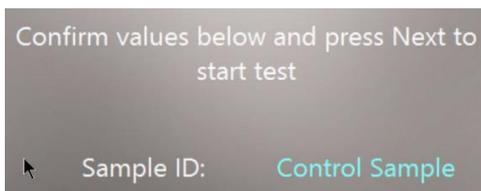

Figure 40: Control Sample confirmation message
**Note:** If the selected assay has been set in the Sample ID screen to be run as a control sample, then text will appear on the Confirmation screen indicating that this is a control sample run as illustrated in Figure 40.